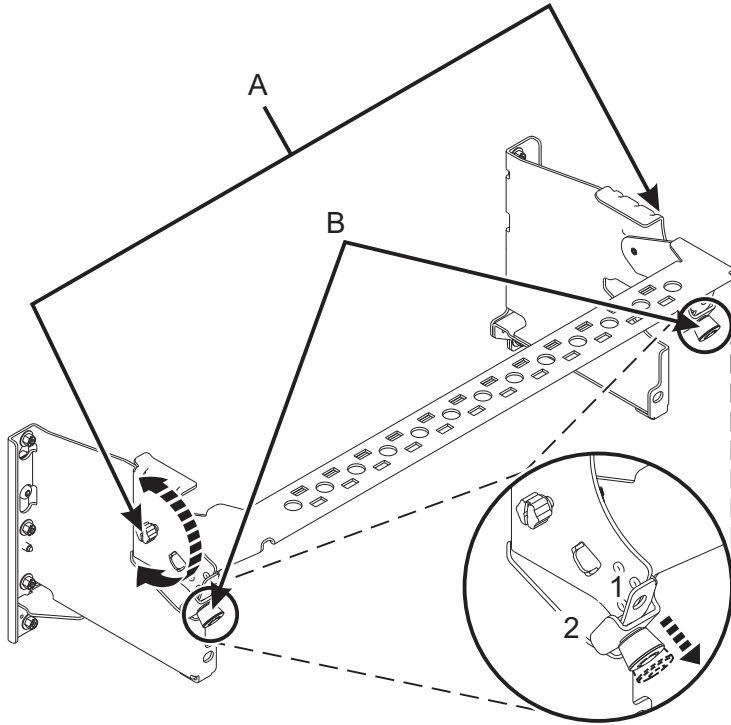

Figure 12. Placing the cable management bracket in the operating position
6. Put the cable management bracket in the operating position. See Figure 12 on page 12.